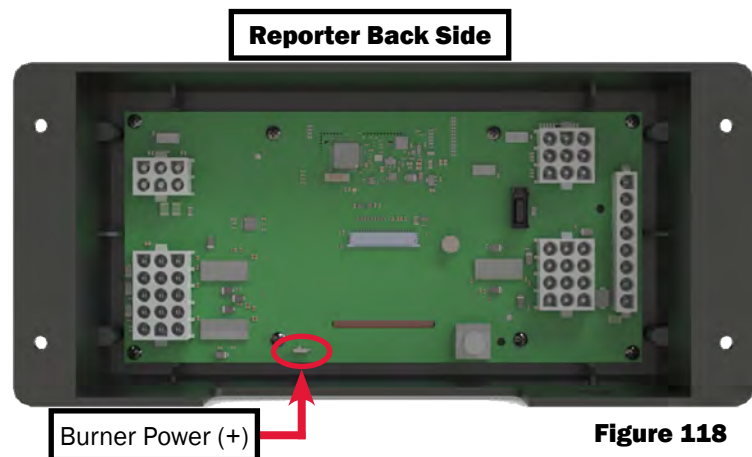

Figure 118
**NOTE:** Before troubleshooting the Diesel Burner Controller, verify that the Reporter has voltage at the pin shown in Figure 118. There will only be voltage on that pin if the Burner is showing ON on the Reporter screen.